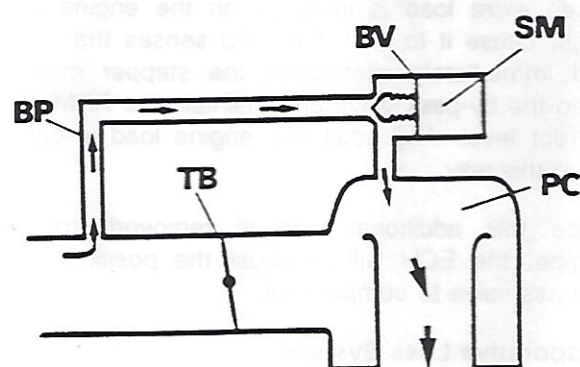

fig.39
When the engine is running at idle speed (i.e: the drivers foot is off the accelerator pedal), the throttle butterfly is closed, and air is supplied via the by-pass air valve (See Figure 39).
As can be seen in Figure 39, whenever the throttle butterfly (TB) is closed, air is drawn from the atmospheric side of the butterfly into the plenum chamber (PC) via the by-pass pipe (BP) and valve (BV).